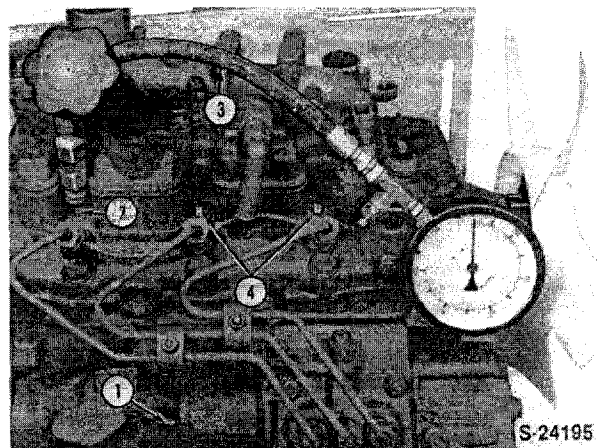

Figure 104
1. Remove the wire (1), Figure 104, from the fuel pump solenoid.